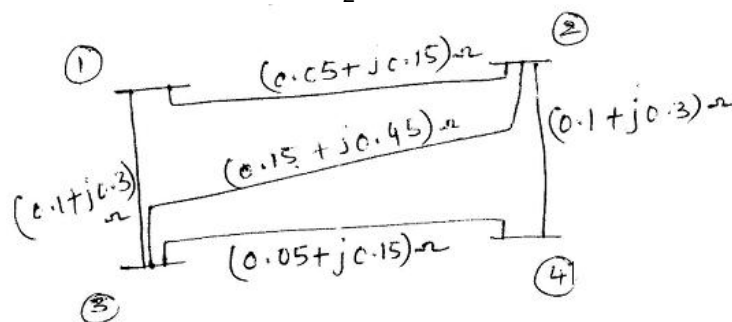

Fig. 2
- 11 For the system shown in Fig. 2, the data is given in Table 1. Find Q_2 , u_2 , V_3 , V_4 at the end of first G-S iteration. Given: $0.2 \quad Q_2 \quad 1$.